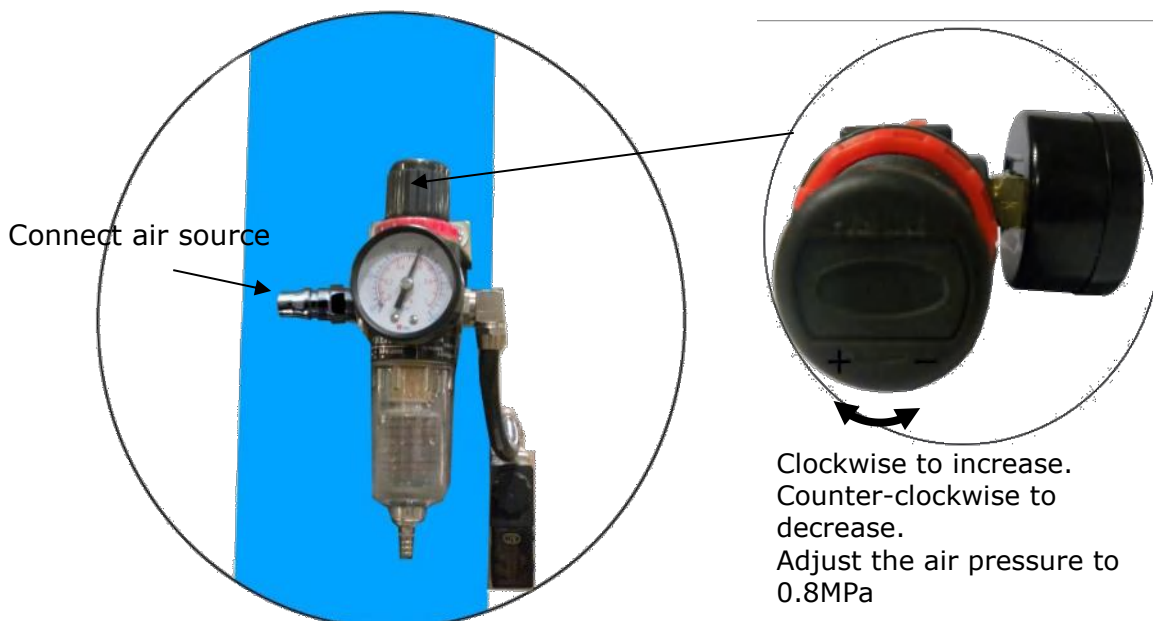

Fig. 46
5. Connecting air inlet (Air supply pressure 5-8kg/cm²), adjusting the air pressure of Oil-water separator to 0.8 MPa (**See Fig. 46**).